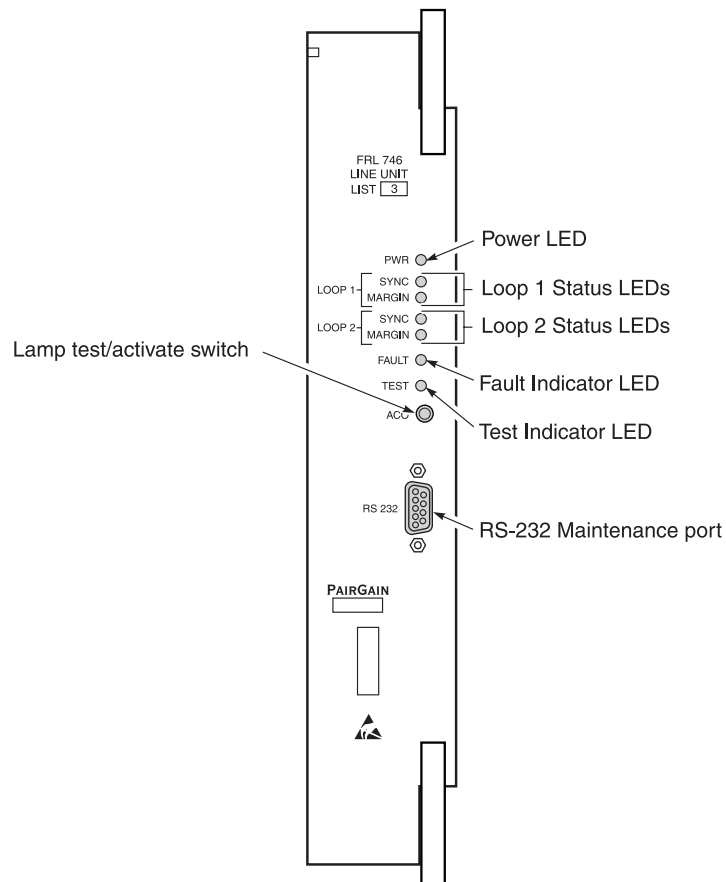

Figure 1. FRL-746 List 3 Front Panel
Figure 1 shows the FRL-746 Line Unit front panel. Table 1 lists the indicators and states for the FRL-746 front panel LEDs.
Figure 1 shows the RS-232 craft maintenance port on the FRL-746 front panel that is used by an ASCII terminal to display system options, performance, and status. Also, it includes the Alarm Cut-off switch (ACO), which is used to perform a lamp test (that is, turn all the Remote Terminal Line Unit (RTL) and Remote Terminal Channel Unit (RTC) LEDs on).
5.2 The RS-232 Maintenance Port (Figure 1) provides access to display system options, performance, and status of the PG-Flex system using an ASCII terminal (see Section 9).